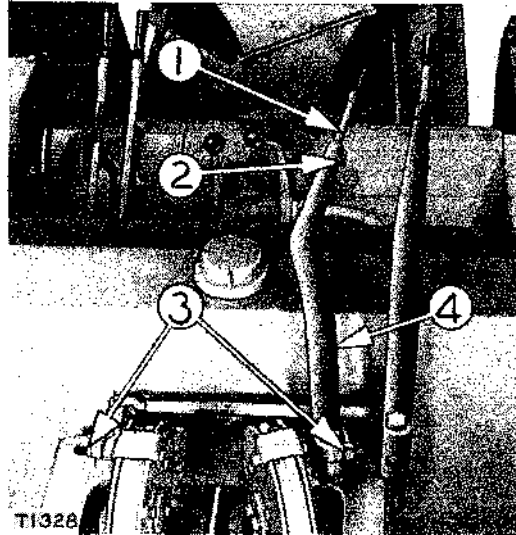

FIGURE 12—
- (3) Tighten the clamp bolt securely after making the adjustment.
D. Control Lever Adjustments. (See figure 12.)
- (1) LATERAL ADJUSTMENT.